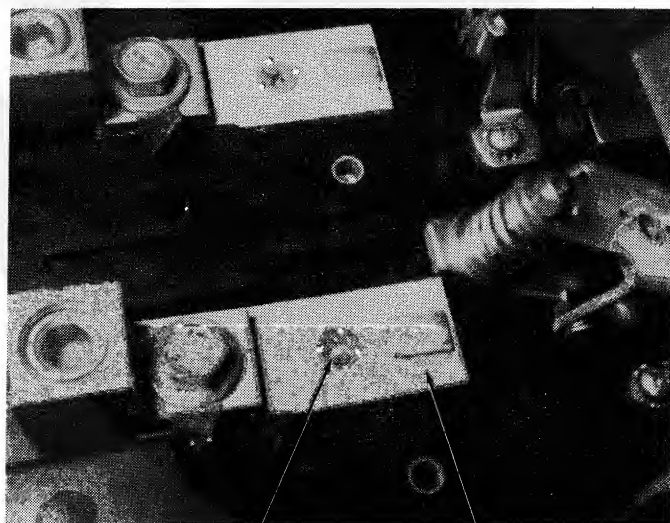

FIGURE 28. CONTACT STRAP
12. With a good Phillips screwdriver, remove the screw holding the strap (stationary contact) to the transfer switch base. See Figure 28.
14. Using a center-punch, indent the edges of the screw in three places to lock the screw in place as had been done to the screw removed (Figure 28).